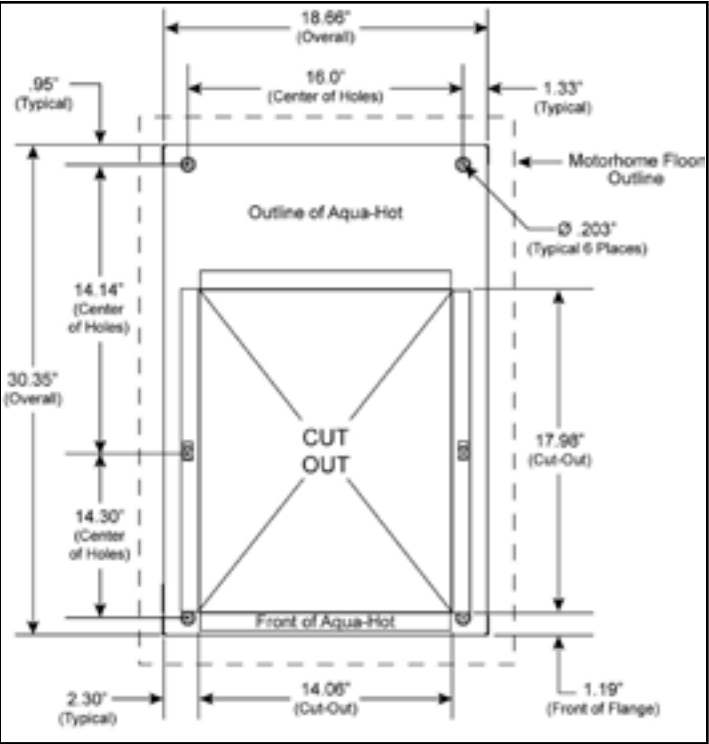

Figure 8
2. Cut out the required mounting tray as shown in Figure 8.